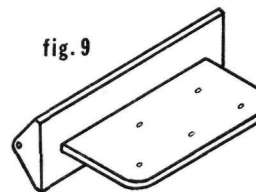

fig. 9
Step 9. Remove the hinge pieces and drill or punch 3 to 5-1/16" holes in the webs for better glue adhesion. (Fig. 9)